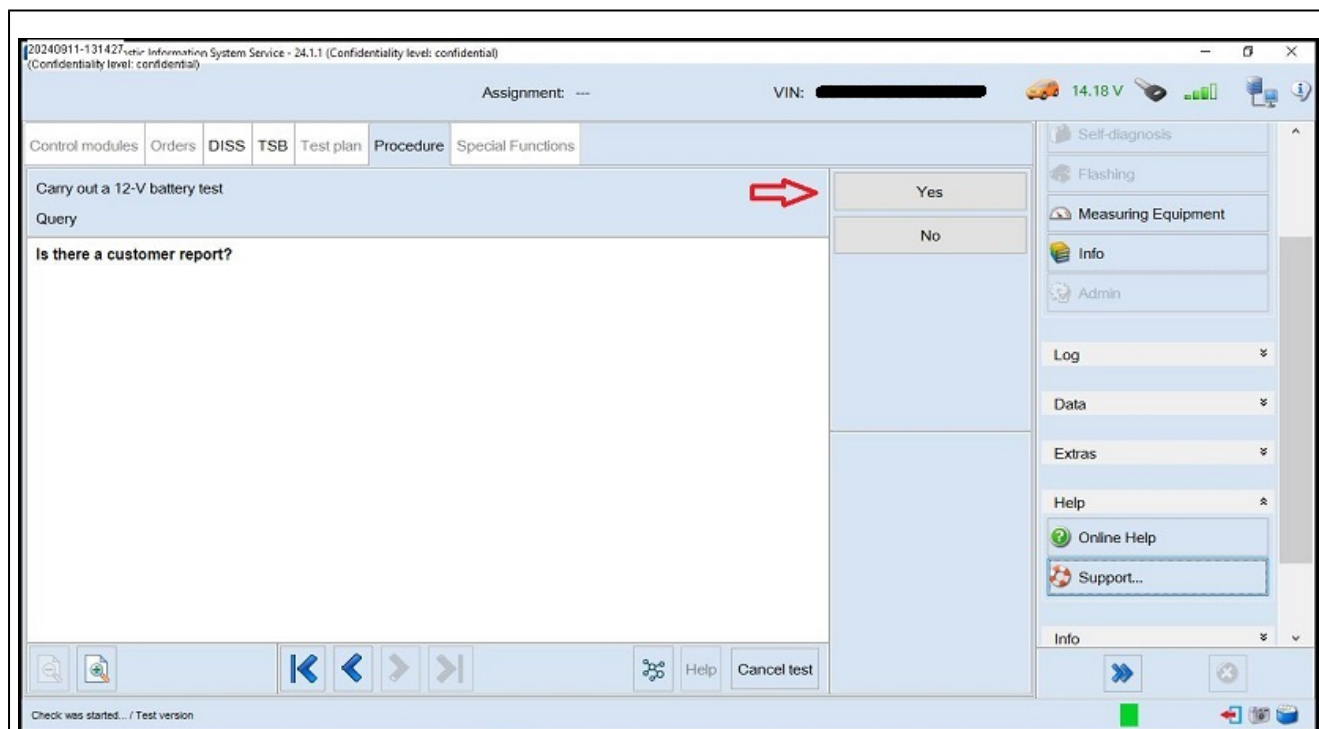

Figure 2.
2. Is this a customer report, select "Yes" (Figure 2).